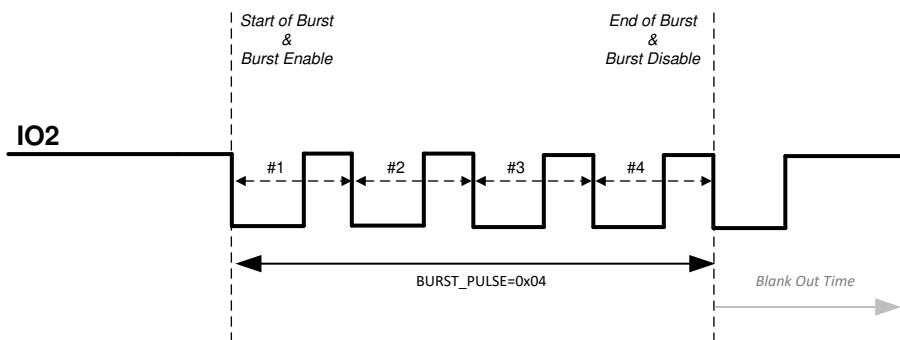

图 18. IO\_MODE 3 Description
- **IO\_MODE = 3:** In this mode, burst enable and start of burst are both triggered by the falling edge of IO2. TI recommends that IO2 pin is kept pulled up to VDD for this mode. The device then expects a clock at IO2 pin to generate pulses on the OUTA/OUTB pins as shown in 图 18. The number of pulses are counted by counting falling edge to next falling edge transitions on IO2 once the start of burst is triggered. End of burst sequence is signaled when the number of pulses defined in **BURST\_PULSE** are sent. After end of burst, a blank-out timer interval defined by the **DRV\_PLS\_FLT\_DT** register is started to prevent triggering of a new start of burst in the event if the IO2 pin is still toggling. After the start of burst, the state of OUTA and OUTB pins are determined by IO1 and IO2 pins as shown in 表 22.